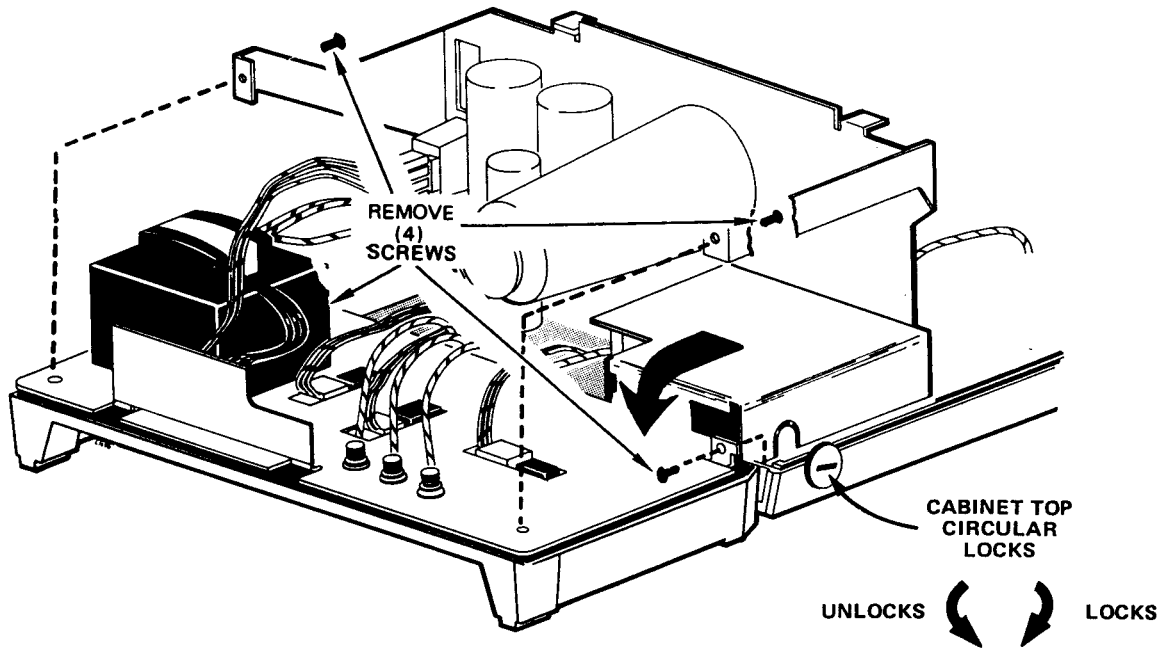

Figure 5-5. Rear panel removal.
(1) Using a coin or large bladed screwdriver, rotate the three circular locks on each side of the cabinet (see Figure 5-5) counterclockwise until the slots are vertical.
(2) Lift the cabinet top straight up.
(3) Remove the five screws holding the EMI Shield (2 on left side near the front, 2 on the top at the rear, and 1 on the top right at the front).
(4) Lift the EMI Shield straight up.
(5) Replace the EMI Shield and cabinet top in reverse order.
(3) Bend grooved part of holder so that connector is inserted into groove.
(4) When plugging connector holders on to board pins, be sure to match triangle mark on holder with triangle mark on circuit board.
**c. Rear Panel Assembly Removal and Replacement (Figure 5-5).**
(1) Remove the cabinet top.
(2) Unplug the power cord.
(3) Unplug the coaxial connector end at the +A GATE OUT (white wire with yellow trace) and CH 2 OUT (white wire with brown trace) connectors located on the A8 Sweep and A5 Vertical boards, respectively.
(4) Remove the four screws on the inside corners of the rear subpanel.